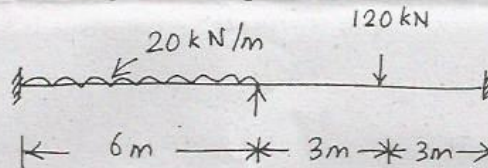

Fig. Q. 12(a)
12. (a) Analyse the continuous beam shown in Fig. Q. 12(a) by stiffness method. Draw the bending moment diagram.